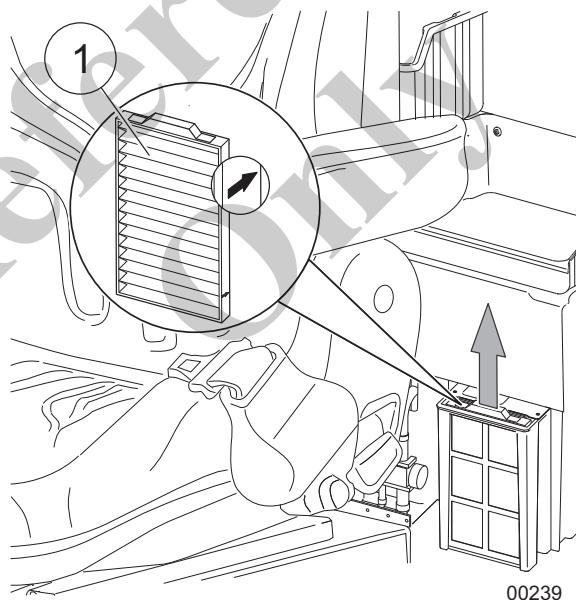

Fig. 39 Recirculating air filter
1	Use the handle to pull the filter element (1) in Fig. 39 out of the filter cartridge.